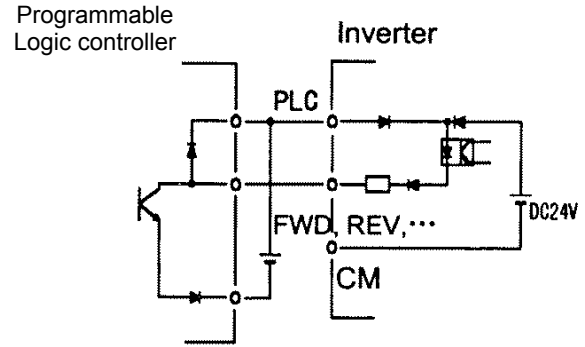

Fig. 2-3-14
(2) Digital input terminals (FWD, REV, X1 to X9 and CM)
- ① Digital input terminals (e.g., FWD, REV, X1 to X9) are generally turned on or off by connecting or disconnecting the line to or from the CM terminal. If Digital input terminals are turned on or off by switching the open collector output of PLC using an external power supply, a resulting bypass circuit may cause the inverter to malfunction. To prevent a malfunction, connect the PLC terminal as shown in Fig. 2-3-14.
- ② When using a contact input, a relay having highly reliable contact must be used.